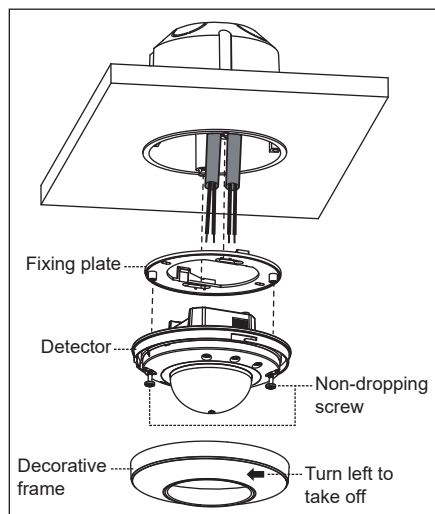

FIG.2
3. Please refer to illustration of FIG.2 for correct installation. Fix the fixing plate to the European standard junction box. After wiring, fix the detector to the fixing plate with 2pcs non-dropping screws (See FIG.2).